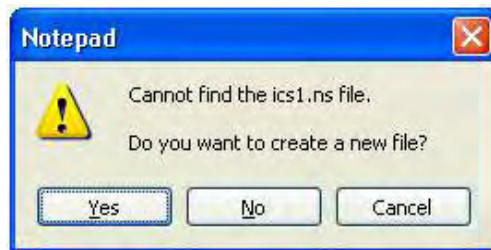

Figure 1-221. Create new File with notepad
4. Notepad window is opened and a notification window pops up, "Cannot find the ics1.ns file. Do you want to create a new file?" (Figure 1-221). Click on **Yes**.